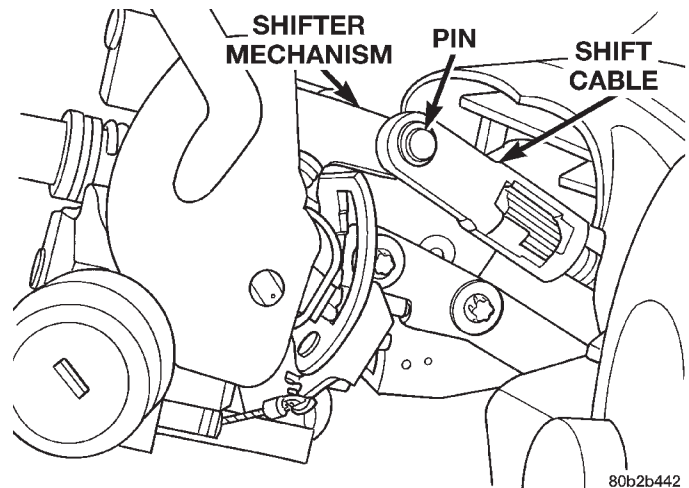

Fig. 26 Installed Shift Cable
(7) **If the vehicle is equipped with a steering column mounted shifter, first verify that the shifter is locked in the park position. Then, install the shift cable on the shifter mechanism (Fig. 26). The shift cable must be fully inserted onto the pin of the shifter mechanism.**